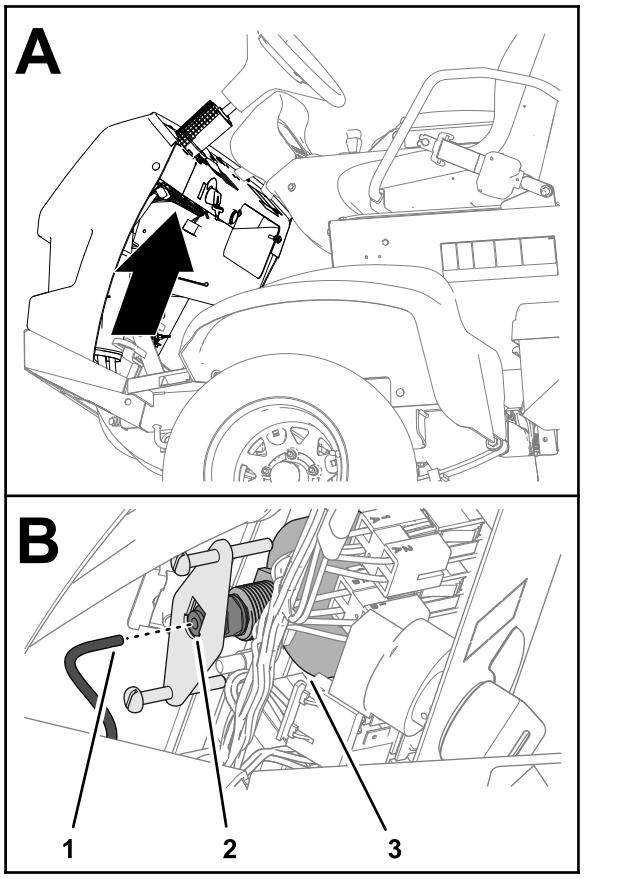

Figure 117
5. Remove the tube from the back of the pressure gauge and place the end of the tube into a container (Figure 117).